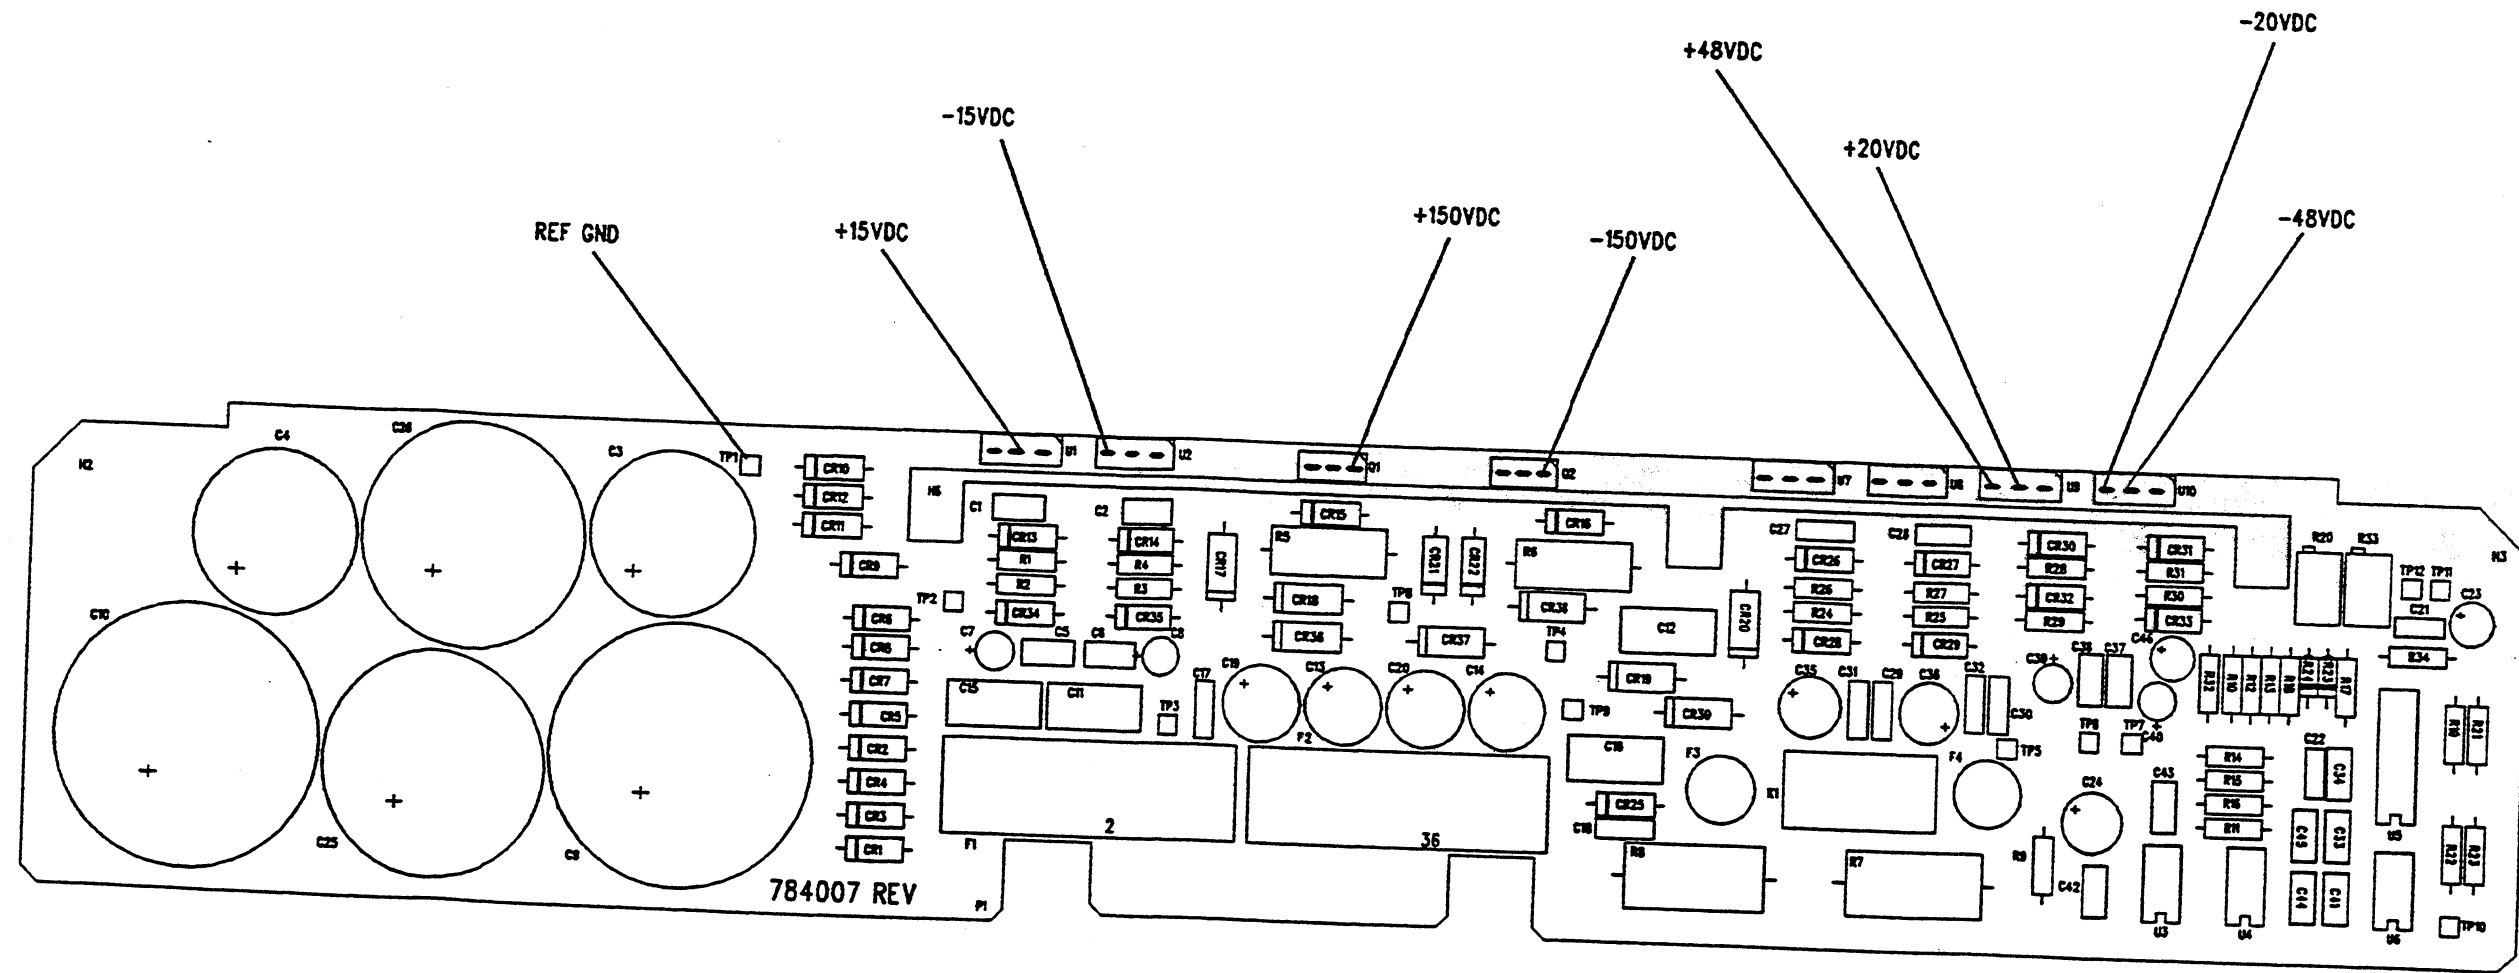

Figure 5-14. Voltage Measurement Points, Isolated P.S.
2. Turn power on/off switch on (I).
3. See figure 5-14 and use a digital multimeter set to DC and an AC coupled oscilloscope to check outputs listed in table 5-8: